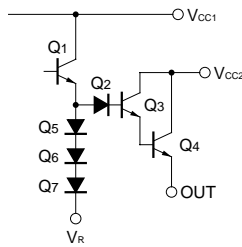

Fig.7
(1) A schematic for the internal circuit associated with the output voltage setting pin (Pin 4) is shown in Fig.7.